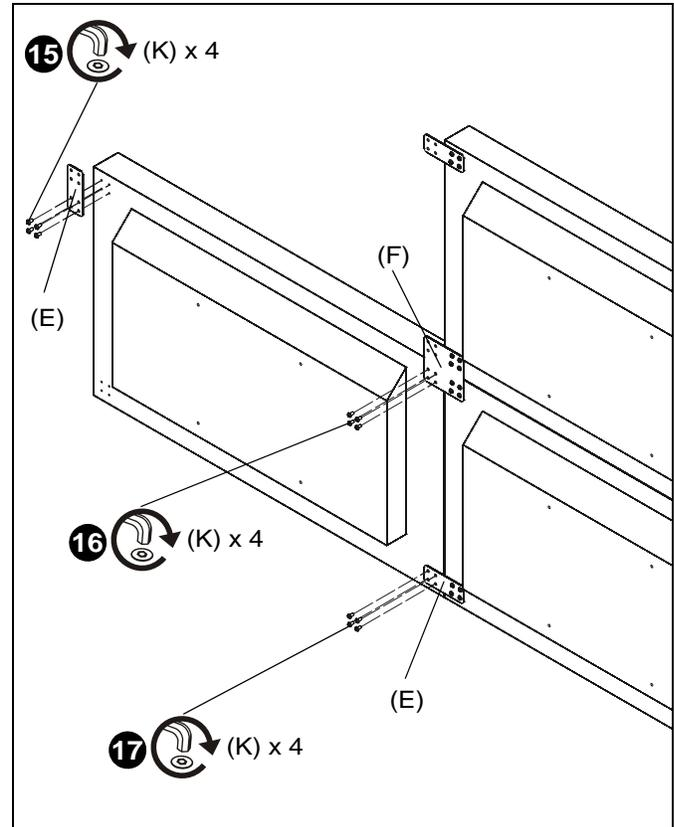

Figure 12
15. Install four M4 x 8mm security screws (K) through holes of edge attachment bracket (E) and into upper right holes of lower right display. (See Figure 12)
16. Install four M4 x 8mm security screws (K) through holes of middle attachment bracket (F) and into upper left holes of lower right display. (See Figure 12)
17. Install four M4 x 8mm security screws (K) through holes of edge attachment bracket (E) and into lower left holes of lower right display. (See Figure 12)